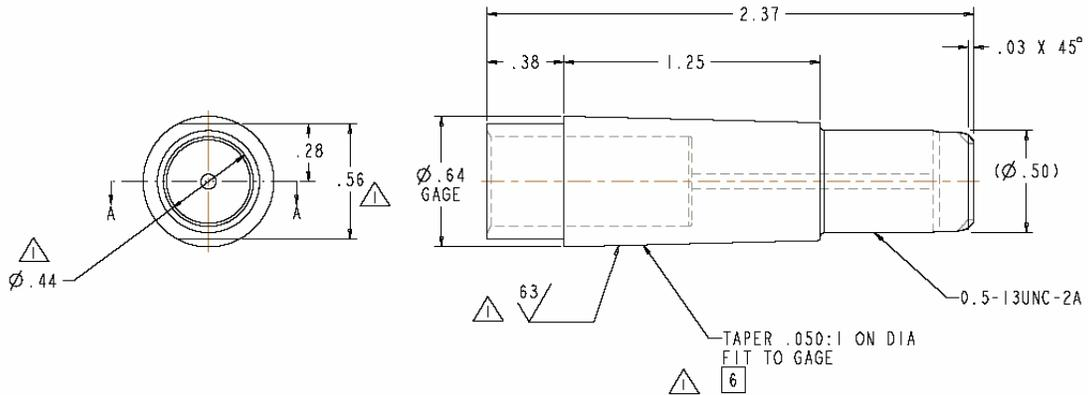
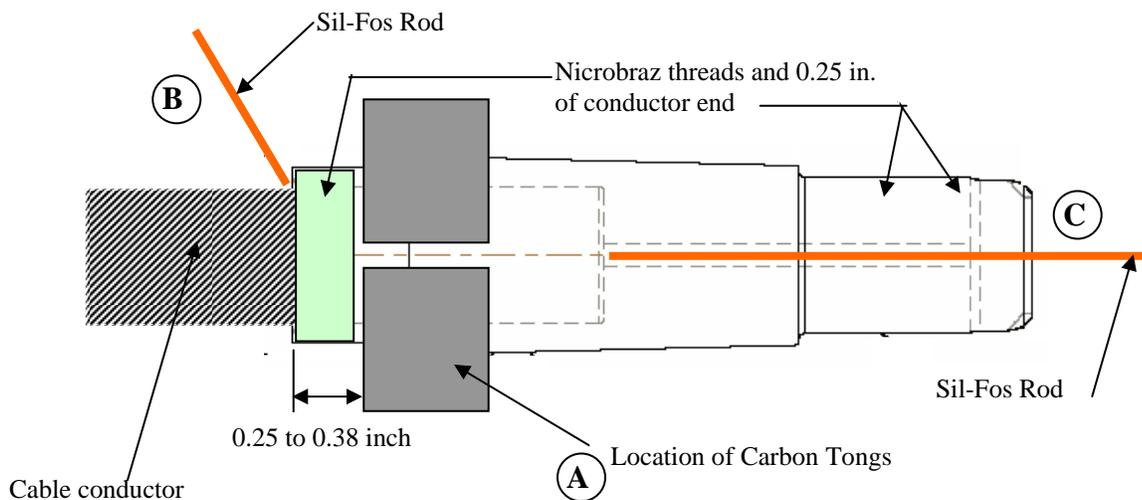

Figure 11- Cable Connector
Figure 18- Carbon Tong Positioning & Sil-Fos Feed
- 6.12.3 Copper Cable Connector: Clean the copper cable connector [Figure 11- Cable Connector] [drawing no. SE142C-059] using acetone-degreasing agent Scotchbrite and clean lint free wipes. Use a wire bottlebrush on the inner bore along with the acetone. Once cleaned, do not touch the components with bare hands. Coat the threads of the cable connector and 0.25 inch from end of connector with “Microbraz” [Figure 18- Carbon Tong Positioning & Sil-Fos Feed]. This coating will minimize the braze material from adhering to the external
- 6.12.10 Position the carbon tongs 1/4 -3/8 inch from the conductor end of the copper connector [A]. [Figure 18- Carbon Tong Positioning & Sil-Fos Feed and Figure 19- Heating Copper Connector]